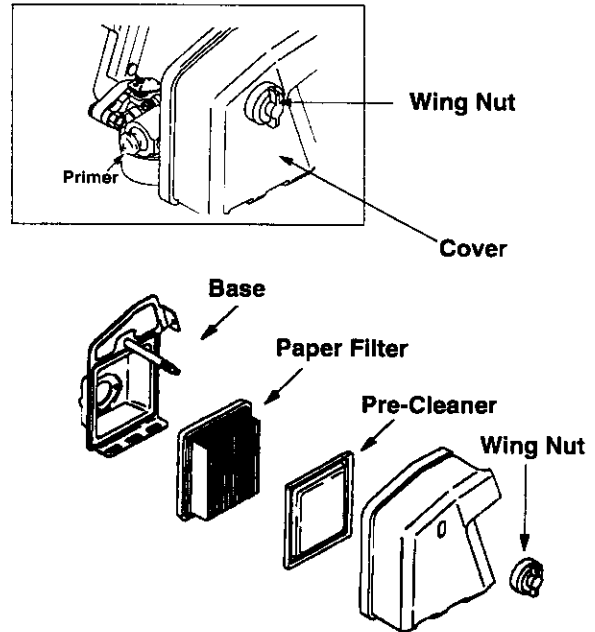

Figure 14
- Remove wing nut and cover. For location, see figure 14 inset.
- Slide pre-cleaner off filter. Clean the inside of base and cover thoroughly. See figure 14.